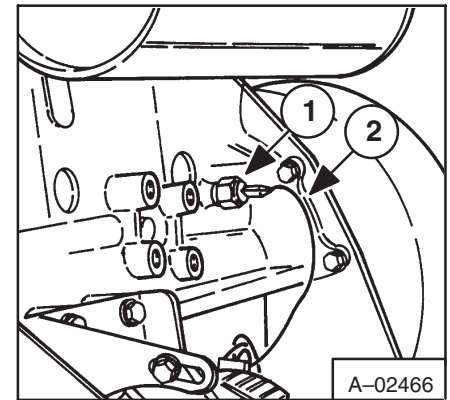

Fig. 1-27 Sender Switch (642)
1. Put a funnel under the temperature sender switch (Fig. 1-27, Item 1) to keep coolant from getting into the engine compartment.
4. Remove the wire (Fig. 1-27, Item 2) connected to the sender switch. Remove the sender switch (Fig. 1-27, Item 1).
1. Install the sender switch (Fig. 1-27, Item 1).
2. Connect the wire (Fig. 1-27, Item 2) to the sender switch.